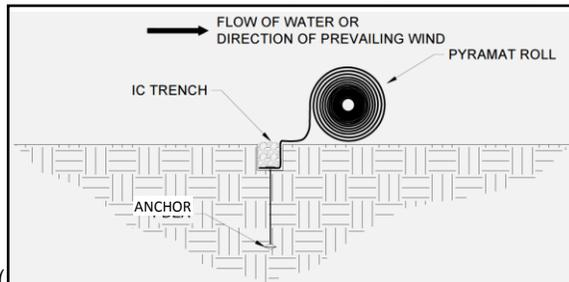

**Figure 13: Initial Channel (IC) Trench Alignment**
2. Place the Pyramat panels by laying the Pyramat rolls on the downstream side of the IC trench so that the roll end points towards the IC trench (Figure 13), with a 3 inch (75 mm) overlap created at adjacent panel edge locations. Ensure that adjacent panel edges maintain a minimum 3 inch (75 mm) overlap during *Pyramat Laydown*. (Figure 22)